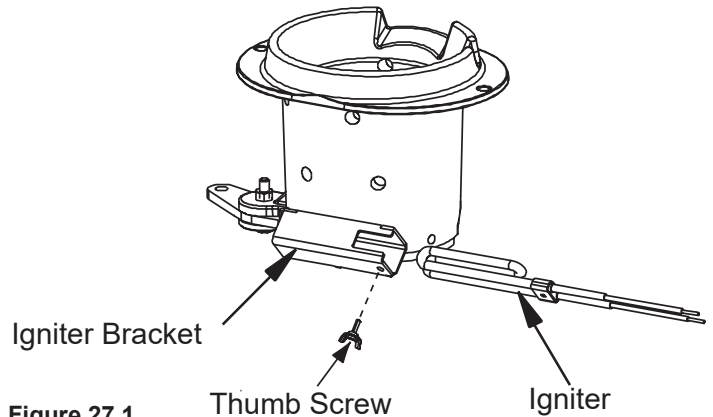

Figure 27.1
- b. The wire leads to the igniter are connected to the wire harness with 1/4 inch male / female spade connectors. These wires will pull forward approximately 4 to 5 inches (102mm to 127mm). Disconnect the spade connections and remove the igniter from the chamber. Loosen the thumb screw and slide igniter out (**Figure 27.1**).